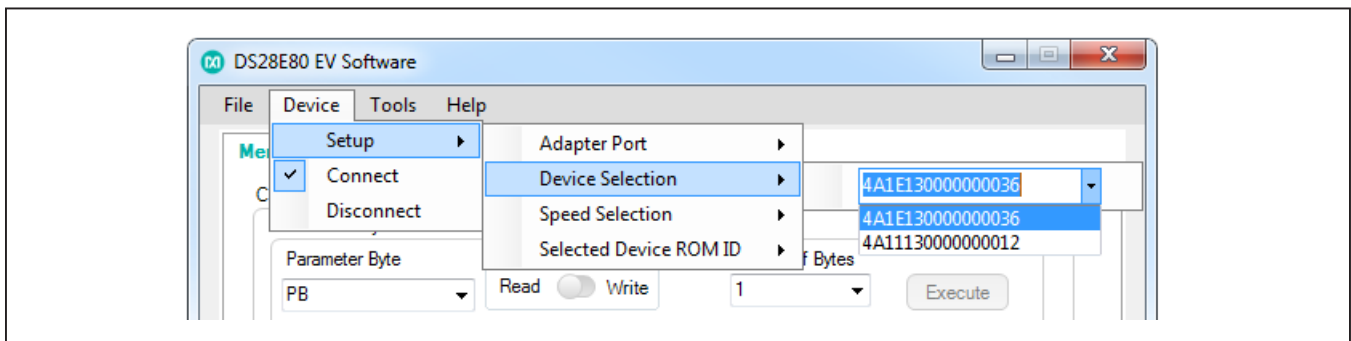

Figure 7. Device Selection
- 10) If more than one device is in the 1-Wire network, it will be displayed under **Device** → **Setup** → **Device Selection** (Figure 7). From there, the user can select any DS28E80 in the 1-Wire network. The new selected device ROM ID will be displayed under **Device** → **Setup** → **Selected Device ROM ID**.